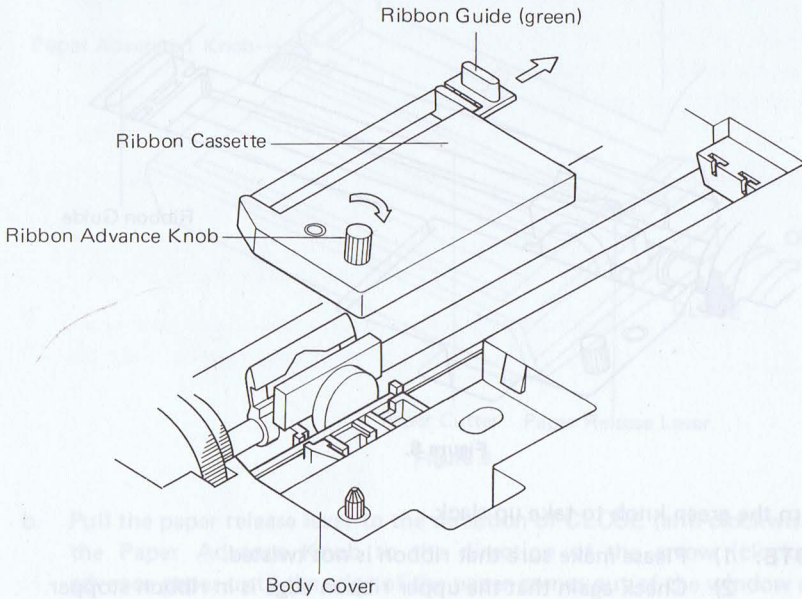
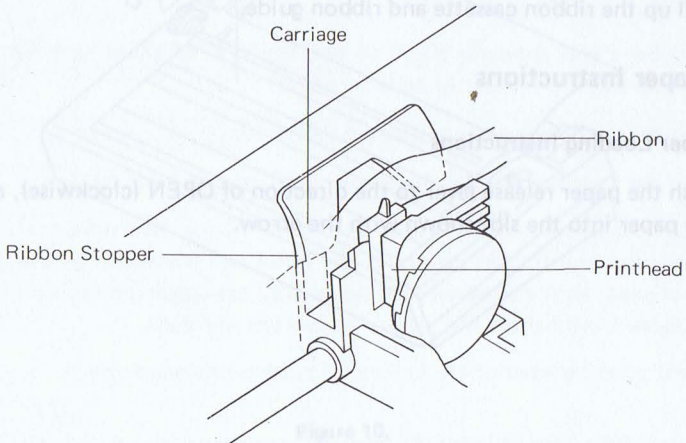

Figure 6.
Figure 7.
- g. Place the ribbon between carriage and print head (See Figure 6), and set the ribbon cassette to the body cover (See Figure 7).